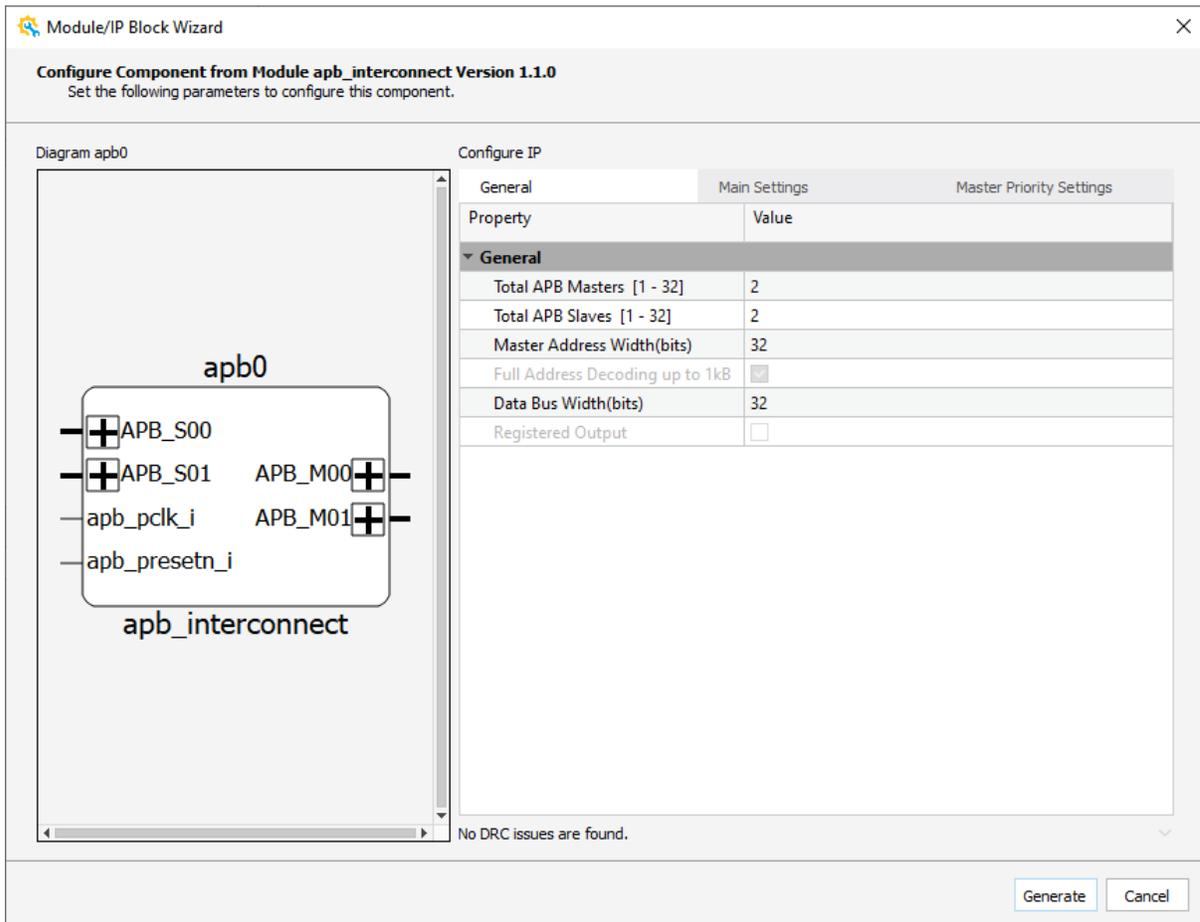

Figure 2.64. Module/IP Block Wizard – Configure Component
1. Double-click the module, or right-click the module you want to reconfigure. Choose **Reconfig**. The Module/IP Block wizard (Figure 2.64) opens.